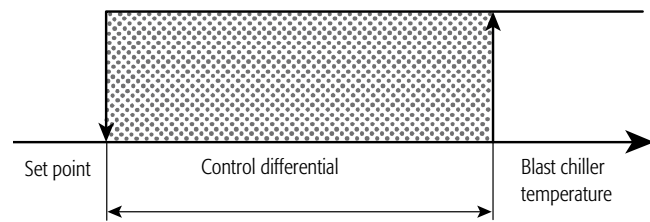

Fig. 4.3 Temperature control.
- if parallel operating mode is selected, temperature control follows the diagram in Fig. 4.3; the differential and the set point for each phase are the same and the second phase is activated after having waited the delay time between the start of different compressors;